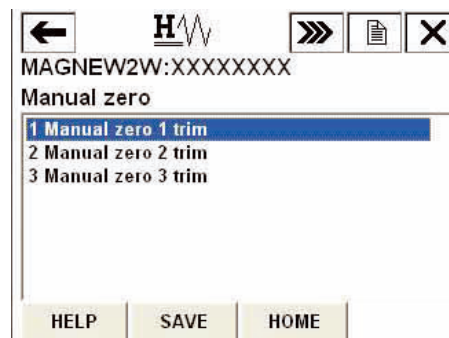

Figure 7-49
Figure 7-49 is then displayed.
2. Once the display as shown Figure 7-49 appears, move the arrow key up or down to select a manual zero to be adjusted.